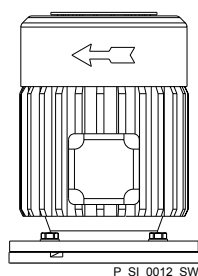

Fig. 13: Direction of rotation of motor
- When connecting the motor, pay attention to the correct direction of rotation indicated by the arrow on the fan cover, as shown in Fig. 13.